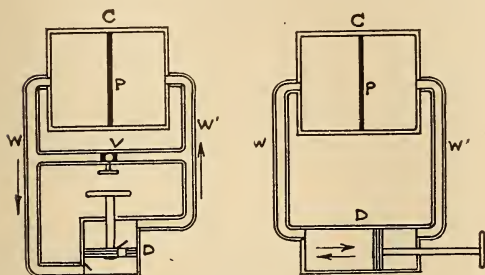

FIG. 1.
The electrical action of a condenser is peculiar, and is best explained by a mechanical analogy. Thus we will suppose (C), Fig. 1, to be a reservoir and (P) a partition dividing it into two parts. The pipes (W W') represent the two electrical wires or terminals of the condenser. Now imagine that air at any pressure is forced into either pipe by the pump